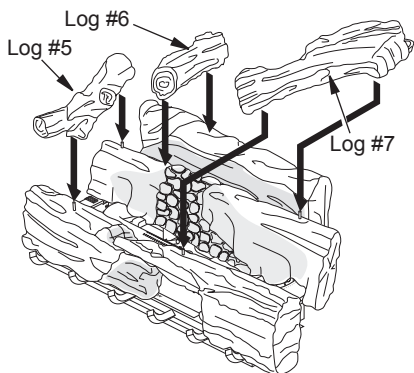

Figure 24 - Placement of Crossover Logs (Logs #5, #6, and #7)
- Place left crossover log (log #5) on pegs of log #2 and #3 (see Figure 24). Place
middle crossover log (log #6) on pegs of log #1 and #2 (see Figure 24). Place right crossover log (log #7) on pegs of log #2 and #4 (see Figure 24).